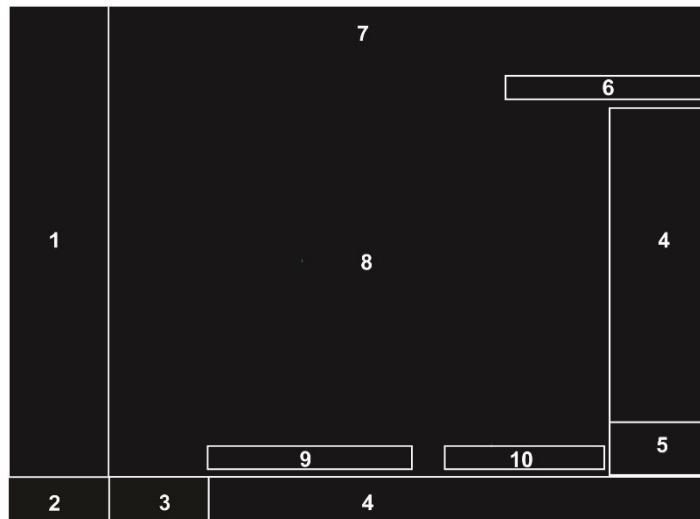

Fig. 5: Monitor unit
The nebulization ends automatically at the end of the set time or when the button is pressed again. The current time setting is displayed in the special functions area of the monitor (see Fig. 5/item 5). If the function is activated, the special functions area lights up blue, the “A” symbol appears, and the countdown starts (see chapter 3.2.6).
Press the »Preoxy« button to administer a pre-adjustable inspiratory oxygen concentration for a certain preset interval. The time can be set between 30 and 420 s in the Main menu under “Extra-func.” → “Preoxy time” or switched off entirely. The current time setting is displayed in the special functions area of the monitor (see Fig. 5/item 5).
Set the required time or the »Tinsp« option in the Main menu under "Extra-func." → "Insp. hold" (see chapter 4.2.6). The current time setting is displayed in seconds in the special functions area of the monitor (see Fig. 5/item 5).
The current date (DD-MM-YY) and time are shown in the first two lines of the parameter display on the right side of monitor (see Fig. 5).